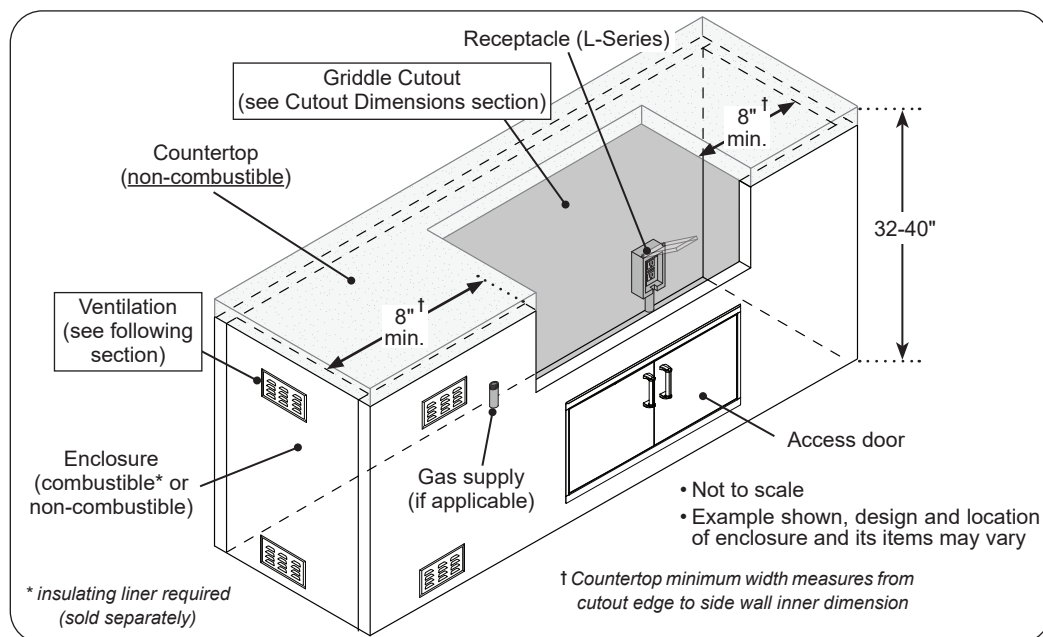

Fig. 11-1 Enclosure specifications
The enclosure can be constructed according to your individual preference, while following all guidelines found in this manual. **The enclosure MUST (see Fig. 11-1):**
- have an 8" min. clearance between the grill cutout side edge and the inner side wall (when free-standing, away from walls)(see Fig. 11-1)
- meet all requirements found in Fig. 11-1 and the following sections